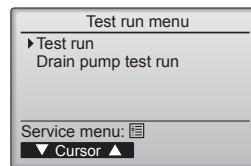

Fig. 7-4
- ④ Select "Test run" with the or button, and press the button. (Fig. 7-4)